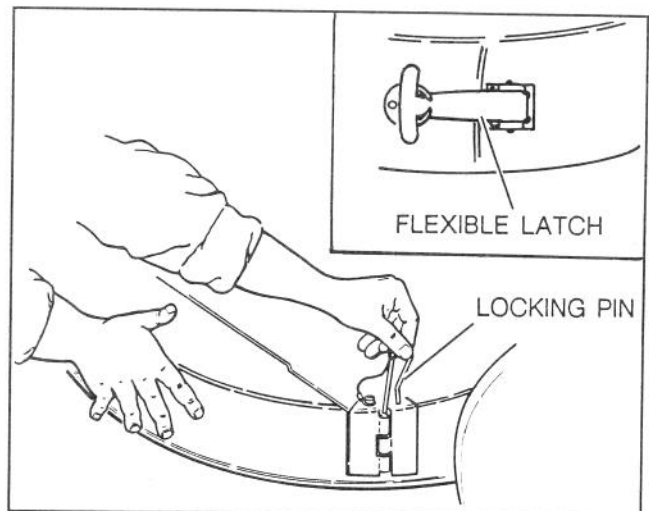

Figure 9
4. Slide chute assembly under deflector and into locking position with mating part of hinge lock. Insert locking pin (Fig.9).
5. Hook flexible latch into notched bracket at rear of deck opening (Fig.9).